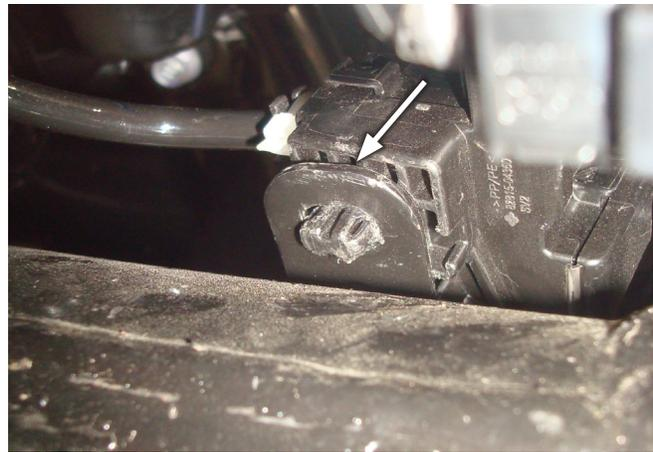

Fig. 4
3. Remove the bolts holding the ABS line bracket forward of the axle and set them aside for later use (Fig. 4).